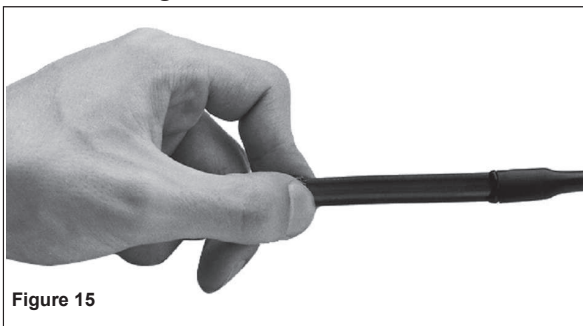

Figure 15
3. Using a propane torch or heat gun, apply heat evenly until the cap shrinks around the cable and the adhesive melts. Both ends should remain visibly sealed when cool (Figure 15). If not, gently reheat.